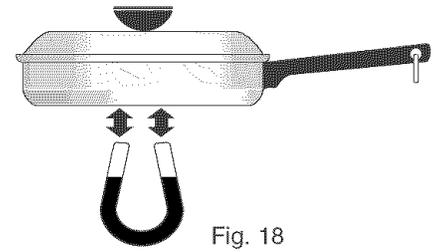

Fig. 18
When purchasing pans, look for cookware specifically identified by the manufacturer for use with Induction cooktops. If your not sure, use a magnet to test whether the cookware type will work. If a magnet sticks to the bottom of the cookware, the material type is correct for Induction cooking (See Fig. 18).
- Use cookware made with the correct material type for Induction Cooking (See Fig. 18).